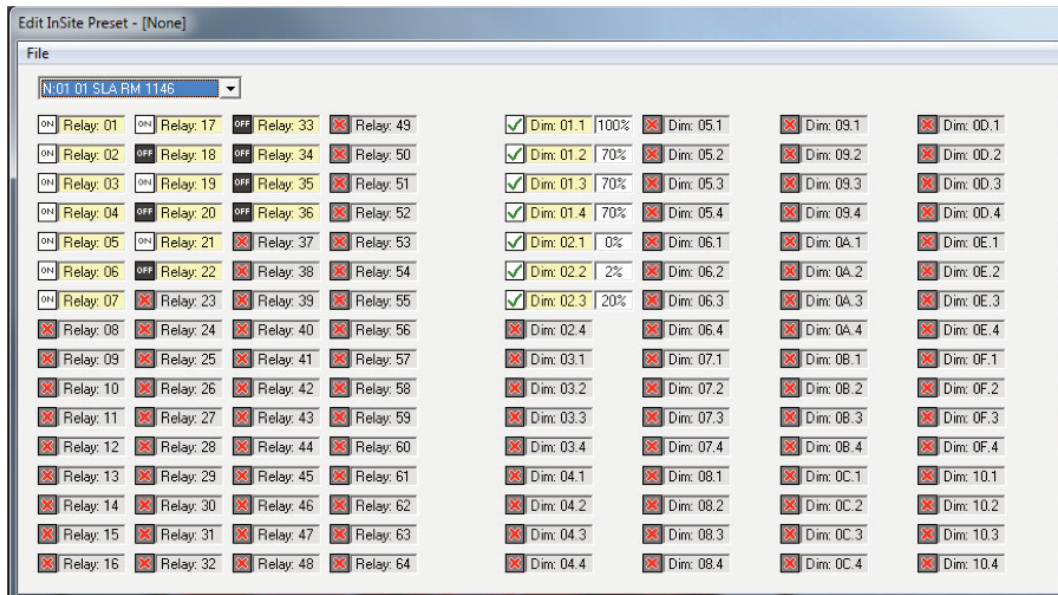

Figure 2.7 Edit an InSite Preset
4. Select the relays to be activate for On or Off operation, select the red X for no control as shown in Figure 2.7